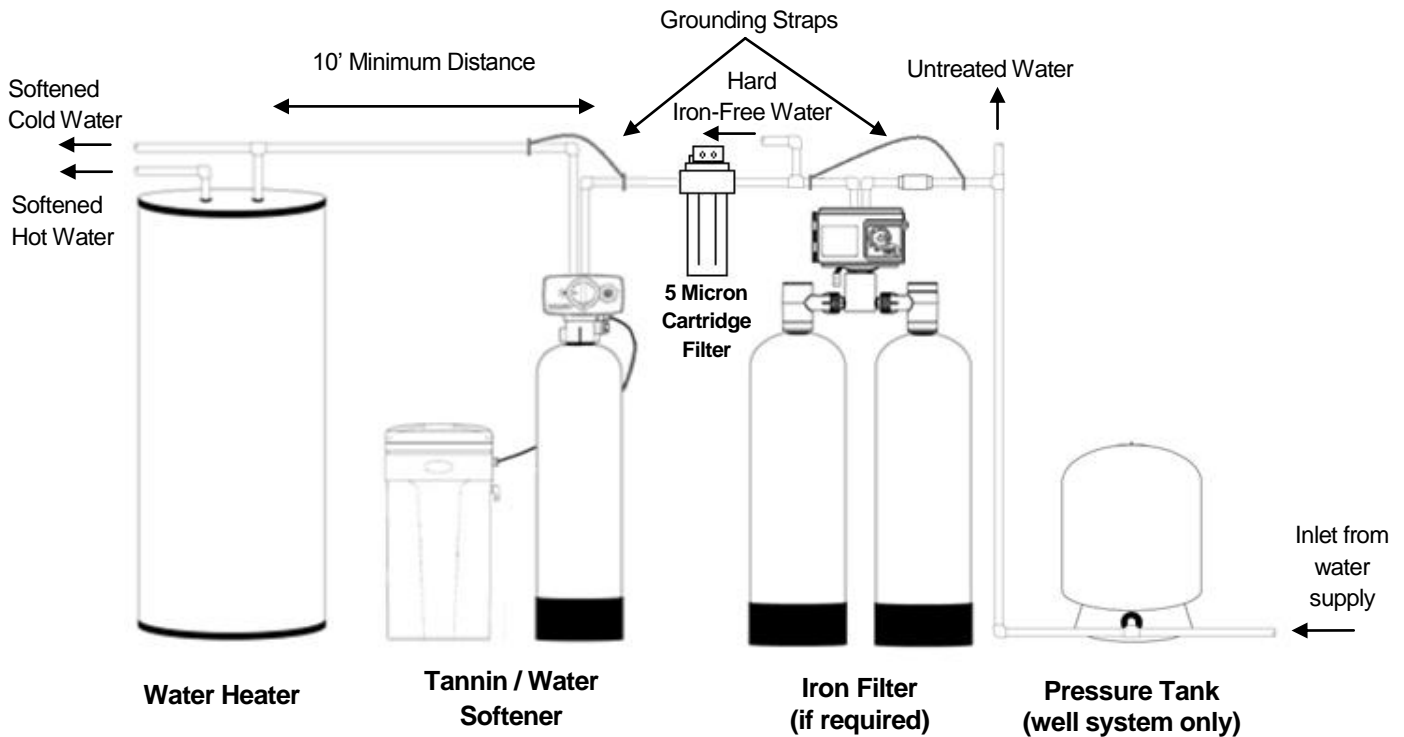

FIGURE 1: Typical Installation
6. Appliances requiring extended periods of continuous or high flow water use (i.e. geothermal heat pumps, swimming pools, lawn irrigation, outside hose bibs, etc.) should bypass the tannin / water softener. (see installation diagram Fig. 1).